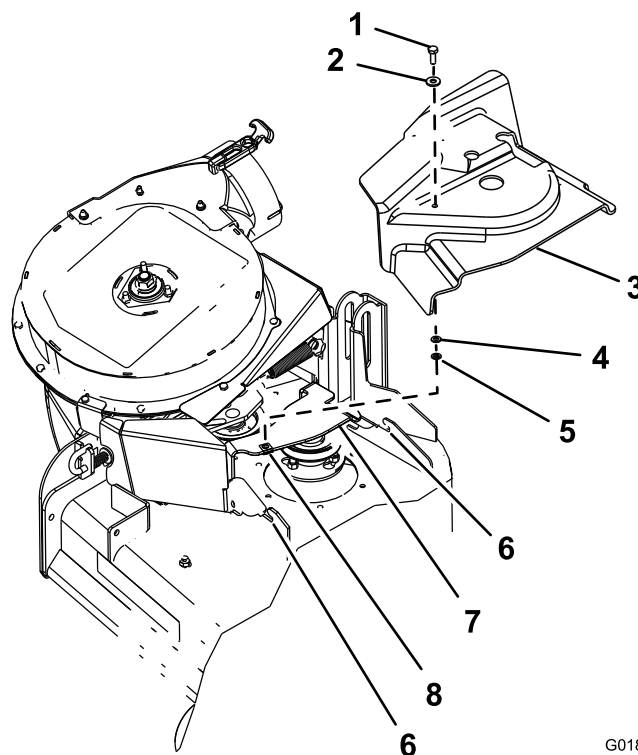

Figure 12
1. Assemble the washer (5/16 x 3/4 inch) to the hex-head bolt (1/4 x 3/4 inch) as shown in Figure 12.
2. Insert the bolt and washer through the hole in the top of the belt cover from the blower and drive kit (Figure 12).
3. From the bottom of the belt cover, assemble the washer (1/4 x 1/2 inch) and retainer over the hex-head bolt threads (Figure 12).
2. Align the belt cover with the notches in the deck flanges (Figure 12).
4. Secure the belt cover to the cover bracket with the hex-head bolt (Figure 12).